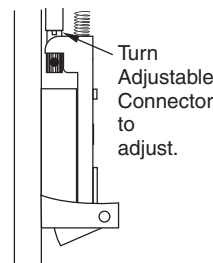

Figure 20
2. Turn adjustable rod connector so that latch bolt is flush with bottom of frame. (Figure 20)